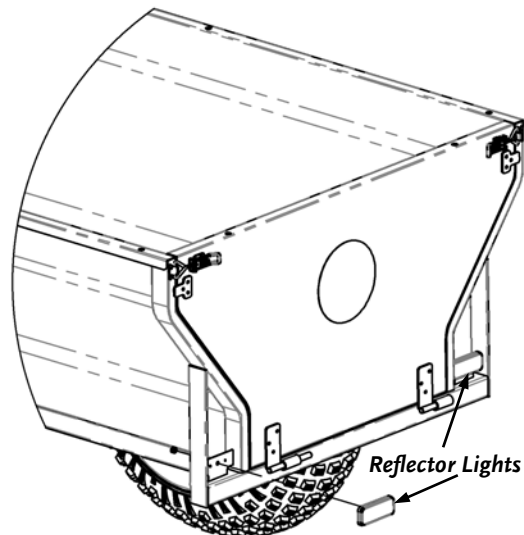

Figure 20
19. Install the Reflector Lights onto the rear of the Trailer (**Figure 20**) using the supplied M6 Lock Nuts and 10mm Socket.